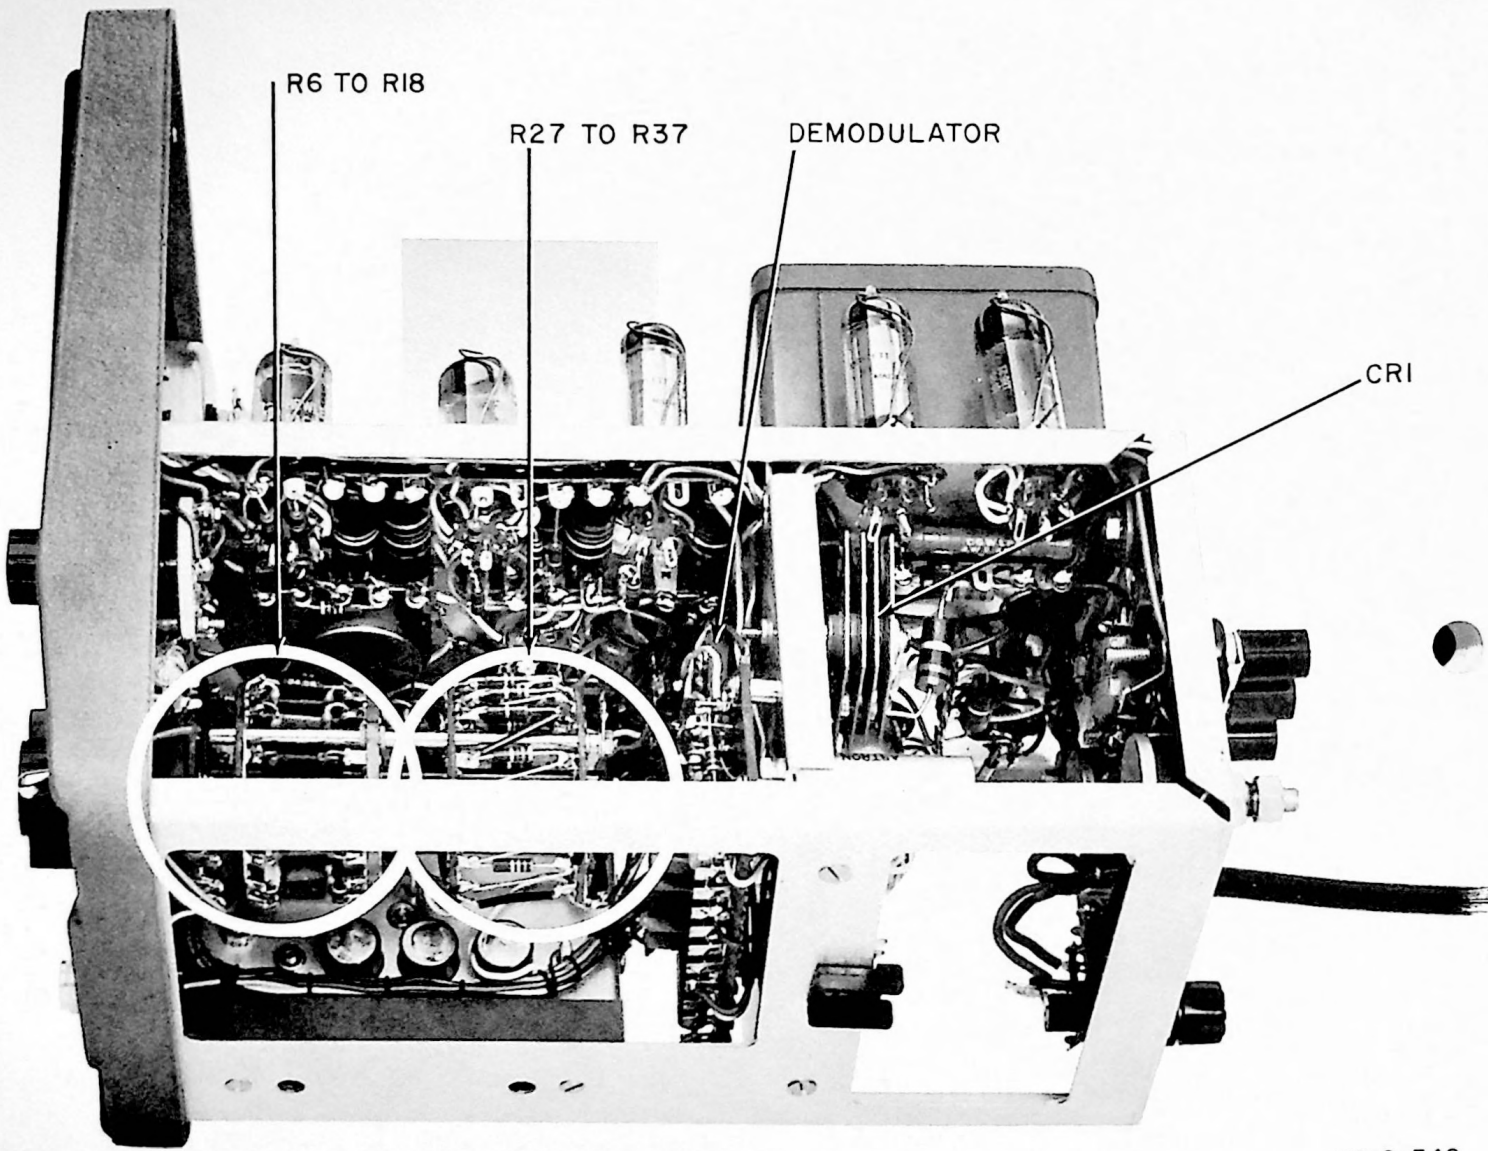

Figure 4-5. Lower Right Side View of 425A
- b. Locate demodulator assembly. It is mounted straight back from the RANGE switch above a resistor board. (See Figure 4-5.)